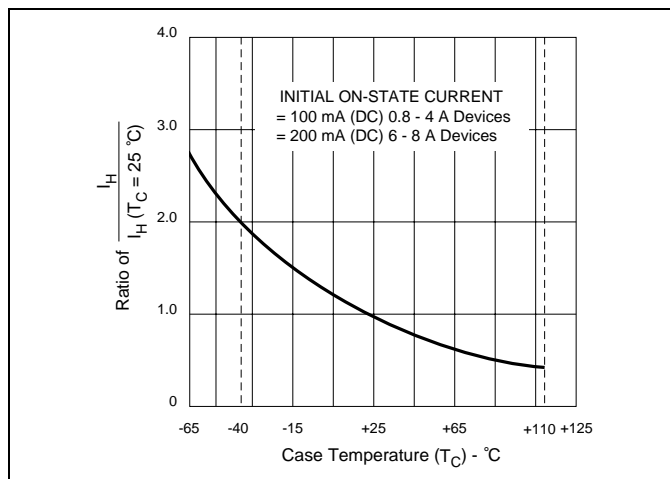

Figure E1.5 Normalized DC Holding Current versus Case Temperature
- (7) See Figure E1.5 for  $I_H$  versus  $T_C$ .